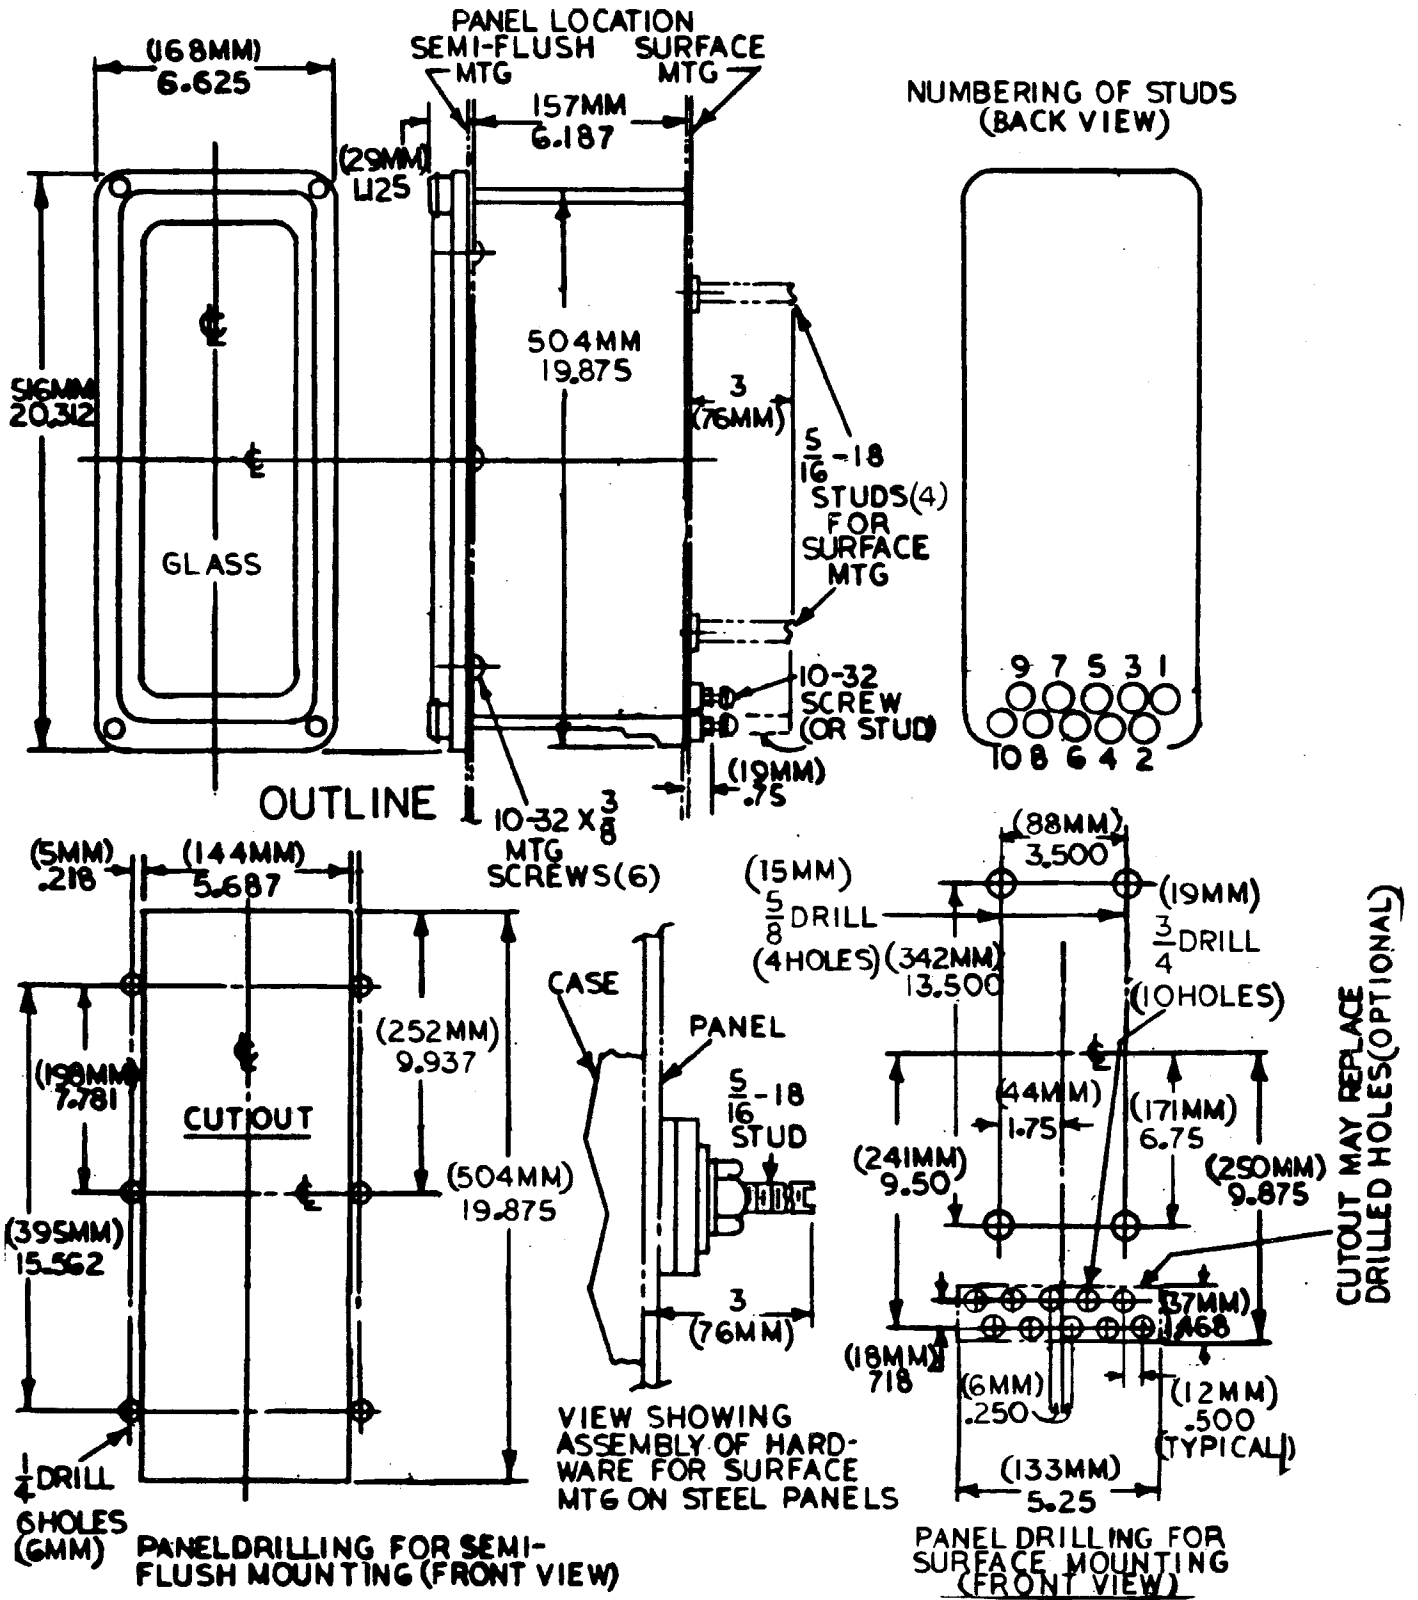

Figure 7 (K-6209275-1) Outline and Panel Drilling Dimensions for Type STD99AB and STD99AC Relays
- Figure 7 - shows the outline and panel drilling dimensions for the STD99AB and STD99AC relays.